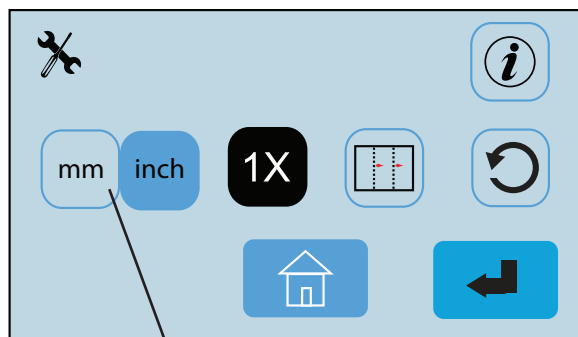

Fig. 37
1. From the Operator Settings screen (Fig. 36) press the measurement setting icon   (Fig. 37) to change between settings. The icon highlights in blue is the selected setting. By changing this setting the paper sizes will change from standard to metric or vice versa.